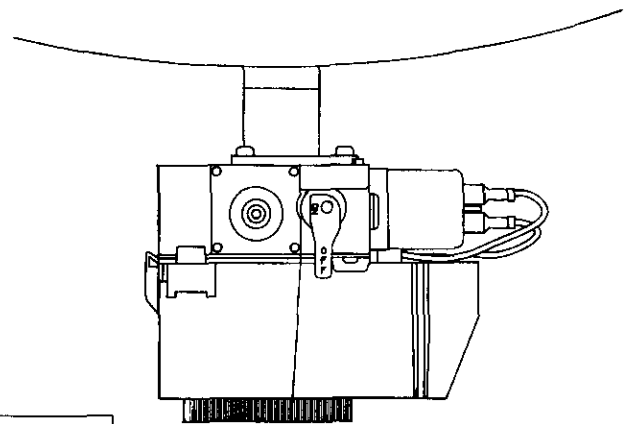
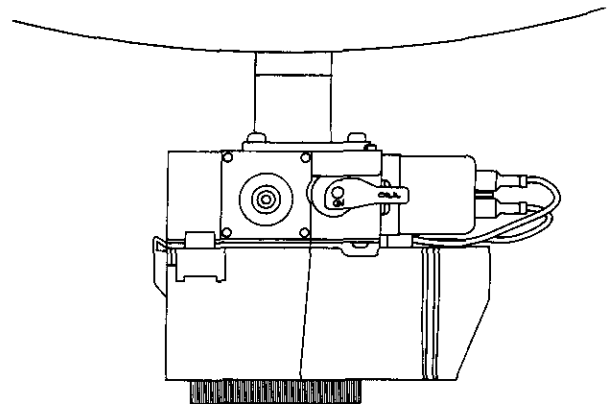

Figure 8
Figure 9
3. Set the thermostat to lowest setting by turning the water temperature dial counter-clockwise, (↺) to its lowest temperature setting. **DO NOT FORCE.** Turn gas control knob clockwise to "OFF" position. (Figure 8, page 26)
4. Wait five (5) minutes to clear out any gas. If you then smell gas, **STOP!** Follow "B" in the safety information above on this label. If you don't smell gas, go to the next step.
5. At arms length away, turn gas control knob counter-clockwise to the full "ON" position. (Figure 9, page 26)
3. Turn gas control knob clockwise (↻) to "OFF" position (Figure 8, page 26).